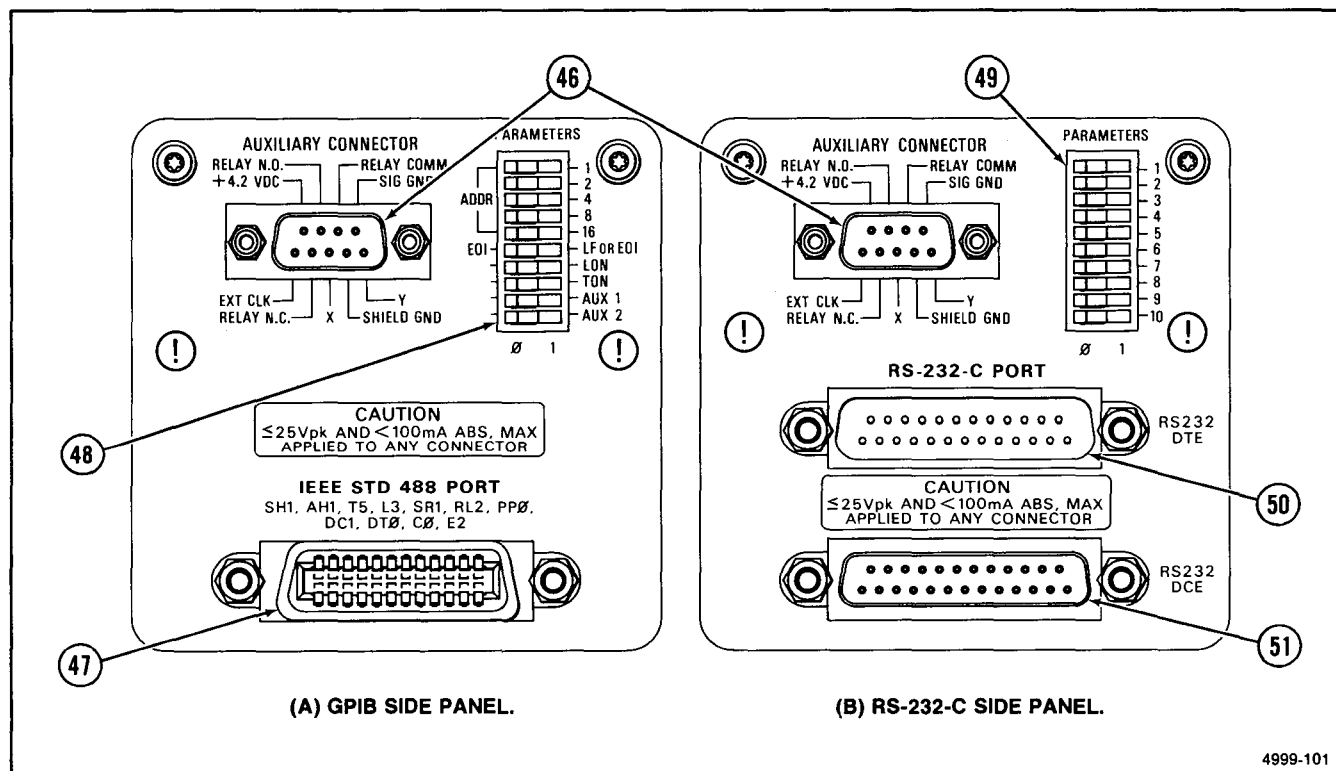

Figure 7-1. Option side panels.
The instrument is supplied with one of three possible side panels. The standard side panel (Figure 3-8) includes one AUXILIARY connector. The Option 10 side panel (Figure 7-1A) includes one AUXILIARY connector, one GPIB (IEEE 488-1978) interface port, and one PARAMETERS switch. The side panel for Option 12 instruments (Figure 7-1B) includes one AUXILIARY connector, one RS-232-C interface port (includes one DTE and one DCE connector), and one PARAMETERS switch. The Controls, Connectors, and Indicators part of this manual contains information on the use of the AUXILIARY Connector. Refer to Figure 7-1 for location of items 46 through 51.
- ④6 **AUXILIARY Connector**—Provides connections for an X-Y Plotter and an External Clock input (see Controls, Connectors, and Indicators).
- ④7 **GPIB Connector**—Provides the ANSI/IEEE Std 488-1978 compatible electrical and mechanical connection to the GPIB. The connector is only on instruments with Option 10. The function of each pin of the connector is shown in Table 7-5.